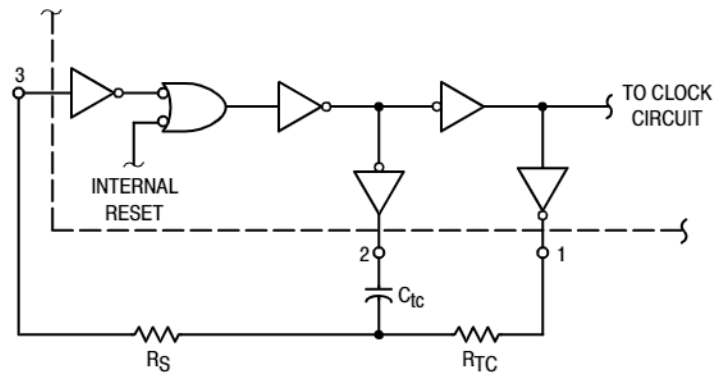

Figure 3. Oscillator Circuit Using RC Configuration
6. When using the on chip oscillator the total supply current (in  $\mu$ Adc) becomes:  $I_T = I_D + 2 C_{tc} V_{DD} f \times 10^{-3}$  where  $I_D$  is in  $\mu$ A,  $C_{tc}$  is in pF,  $V_{DD}$  in Volts DC, and  $f$  in kHz. (see Fig. 3) Dissipation during power-on with automatic reset enabled is typically 50  $\mu$ A @  $V_{DD} = 10$  Vdc.
The RC oscillator as shown in Figure 3 will oscillate with a frequency determined by the external RC network i.e.,